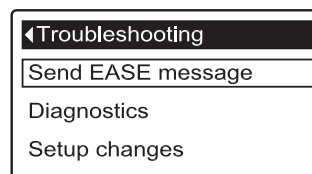
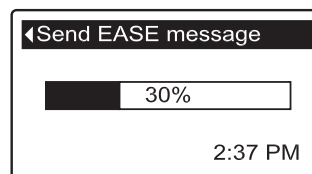

FIG. 81
FIG. 82
5. Press the SELECT (O) button to display the Troubleshooting menu (See Figure 81).
9. A bar is displayed showing the transmission's progress (See Figure 82). Once completed, the Troubleshooting screen immediately reappears (Figure 81).